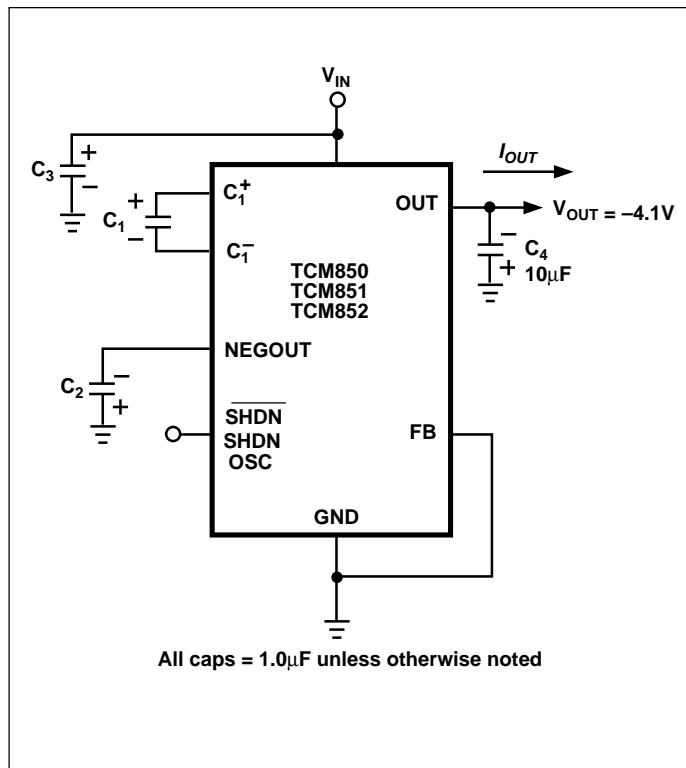
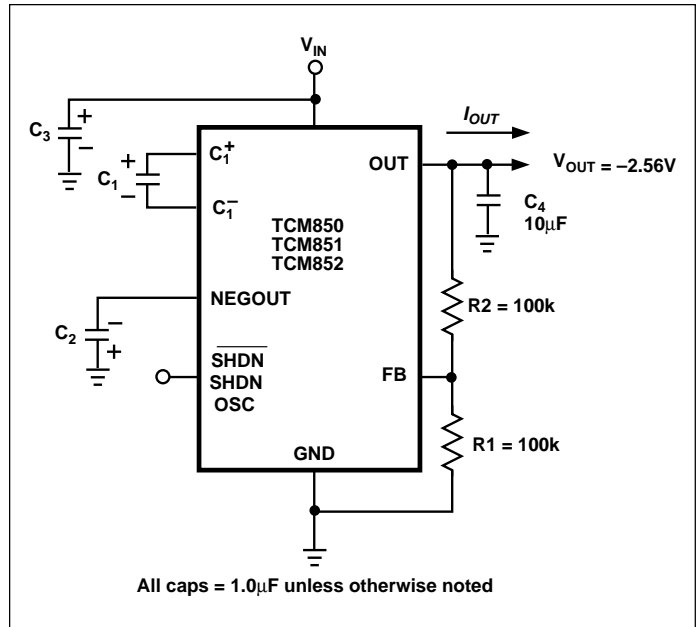

Figure 3. TCM850/851/852 Standard Application
Figure 4. TCM850/851/852 Adjustable Application
3.  $I_{OUT} = 0$ mA or 5mA. Reference Figures 3 and 5.
The TCM850/1/2 operate in the fixed output voltage mode ( $OUT = -4.1V$ ) when the FB input is grounded (Figure 3). The output voltage can be adjusted by connecting FB to the midpoint of a resistive voltage divider from OUT to GND (Figure 4). Care must be taken to allow a minimum of 1.0V across the linear regulator for proper regulation. The output voltage is calculated using the formula below ( $R_2$  should be chosen to be between 100kΩ and 400kΩ):